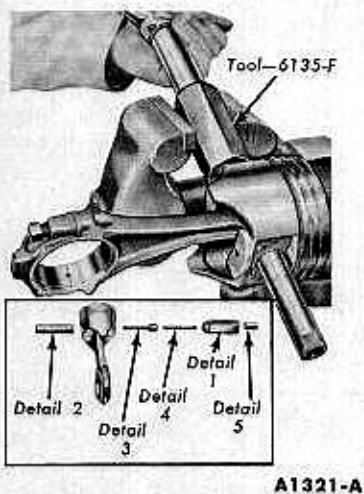

FIG. 23—Piston Pin Removal—Manually
2. Remove the piston pin from the piston and connecting rod (Fig. 23 or 24).